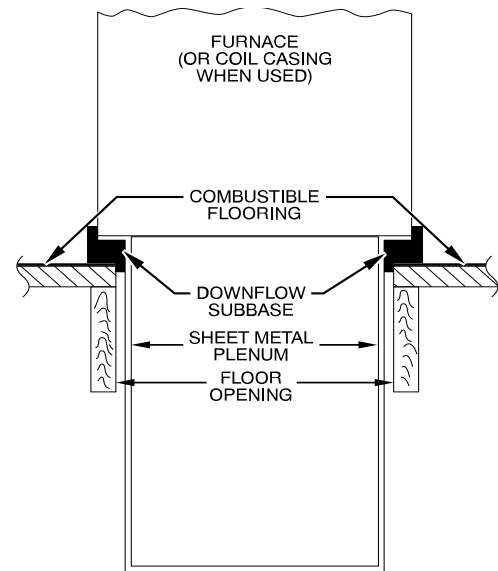
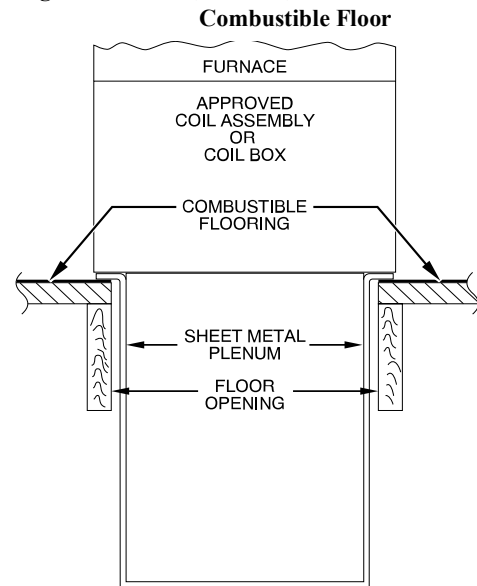

Fig. 12 – Furnace, Plenum, and Subbase Installed on a
Fig. 13 – Furnace, Plenum, and Coil Assembly or Coil Box Installed on a Combustible Floor
4. If downflow subbase is used, install as shown in Fig. 12. If manufacturer's cased evaporator coil or coil casing is used, install as shown in see Fig. 13.